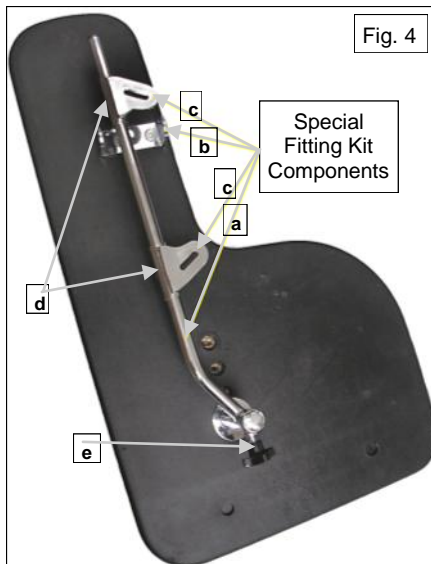

Fig. 4
- Slide off both Mounting Tabs (c) Fig. 4, from the Receiver Bracket (a).
1. The order of assembly and positioning of the Mounting Tabs (c) Fig. 4 (either above or below the Sidearm Frame), may vary according to the make and model of wheelchair.
- Slide Receiver Bracket (a) through both Mounting Tabs (c) Fig.4, leaving the grub screws (d) Fig.4, loose at this stage.
- The Bexhill can be finally secured in place by fully tightening the thumb screw (e) Figs.4 & 5.